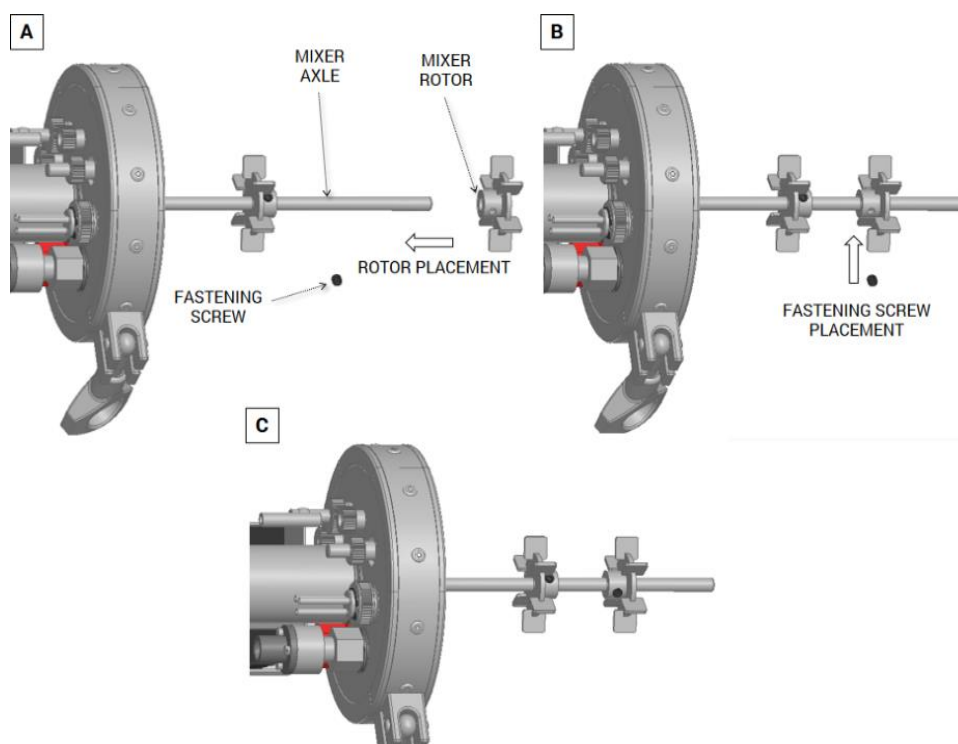

Figure 0.3. Bioreactors mixer rotor mounting schematic
- 1) Place the mixer rotors on the shaft in a desired location (see Figure 0.3.A).
- 2) Firmly mount the rotors in the desired position by placing the respective fastening screw in the rotors body (see Figure 0.3.B) and tightening the mentioned screw by an appropriate Allen key (see Figure 0.3.C).